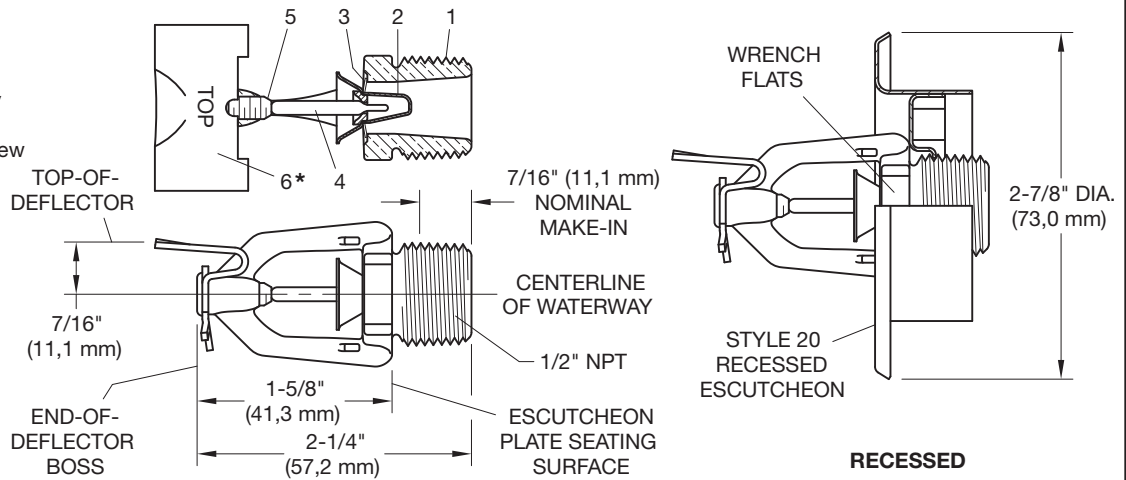
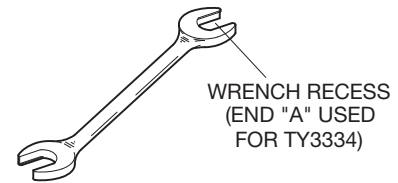
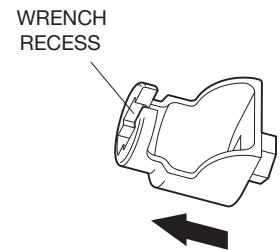

FIGURE 1
FIGURE 3
FIGURE 4
Step 3. Tighten the sprinkler into the sprinkler fitting using only the W-Type 6 Sprinkler Wrench (Figure 3). With reference to Figure 1, the W-Type 6 Sprinkler Wrench is to be applied to the wrench flats.
Step C. Tighten the sprinkler into the sprinkler fitting using only the W-Type 7 Recessed Sprinkler Wrench (see Figure 4). With reference to Figure 1, the W-Type 7 Recessed Sprinkler Wrench is to be applied to the sprinkler wrench flats.